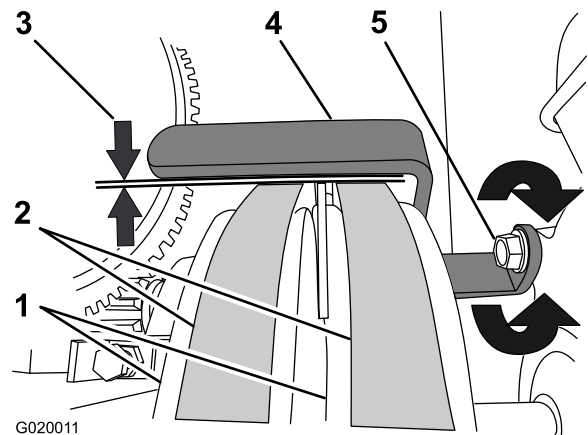

Figure 59
3. Check that the air gap between the belt guide and the belts is 2.5 to 4.0 mm (3/32 to 5/32 inch); refer to Figure 59.
- A. Loosen the bolt that secures the belt guide to the engine (Figure 59).
- B. Rotate the belt guide up or down until there is an air gap of 2.5 to 4.0 mm (3/32 to 5/32 inch) between the guide and each belt (Figure 59).
- C. Tighten the bolt that secures the belt guide to the engine (Figure 59).